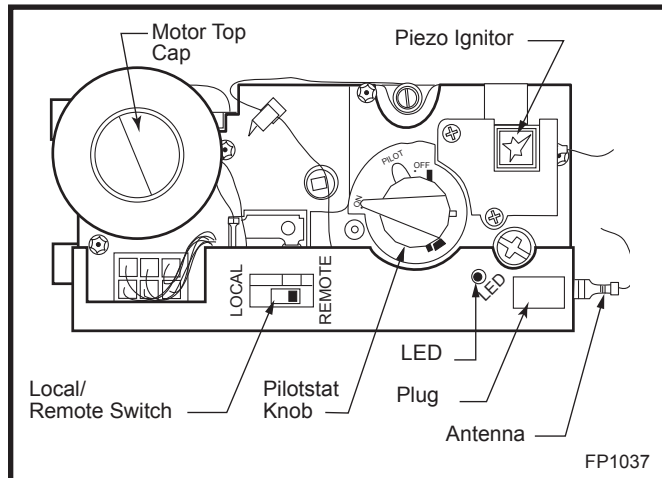

Fig. 69 Comfort control valve.
1. If the manual switch is in remote position, switch it to LOCAL. (Fig. 69)